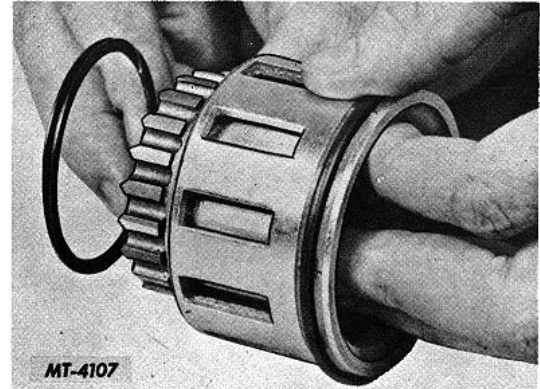
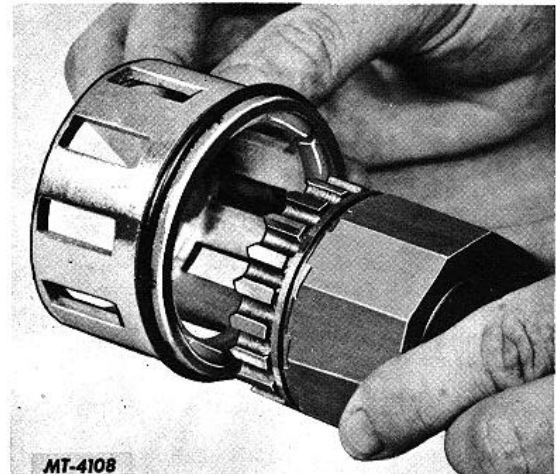

Fig. 15. Removing Spirolox Lock Ring
Fig. 16. Separating Axle Shaft Hub from Roller Cage
Remove Spirolox lock ring (12) located in second groove on axle shaft hub (11). See Fig. 15. This permits the axle shaft hub to be separated from the roller cage.
Pull the axle shaft hub (11) out of the roller cage (9) in the direction as illustrated in Fig. 16.
Position new friction shoes (4) into roller cage (9). Secure friction shoes by installing spring (3) as illustrated in Fig. 15. Install Spirolox lock ring (10) into end (opposite friction shoes) of roller cage (9).
Insert axle shaft hub (11) into roller cage (9) against Spirolox spring (10). See Fig. 16. NOTE: Points on axle shaft hub must be aligned with grooves in friction shoes to permit entry. Install Spirolox lock ring (12) into second groove on axle shaft hub (11). See Fig. 15.